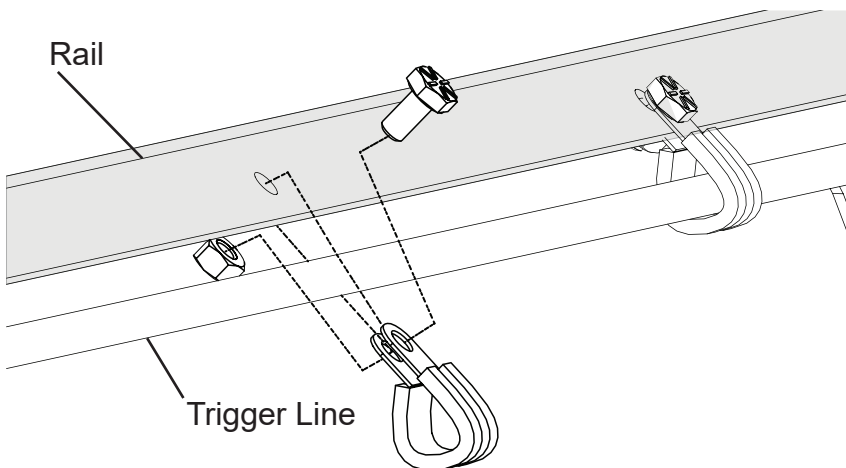

Figure 7: Remove and retain the bolts, clamps, and nuts that secure the trigger line to the rail.
3. Remove and retain the bolts, clamps, and nuts that secure the trigger line to the rail (Figure 7). Quantity is dependent on length of trigger line.